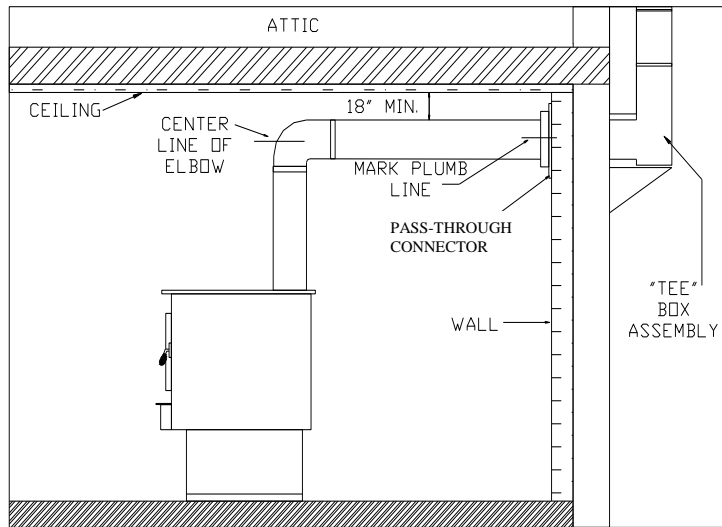

FIGURE 6 FLUE EXIT
1. Mark plumb line on wall directly behind center of heater. (See Figure 6)
3. Measure up so there will be at least 1/4" rise per foot of horizontal connector pipe, maintaining clearances to ceiling as noted in Figure 6. This will give you center of hole for chimney penetration.